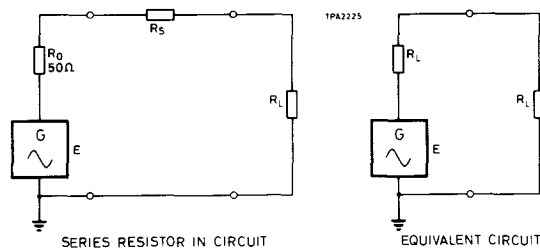

Fig. 4 High impedance matching
24. To match a load that is greater than 50  $\Omega$  to the output of TF 2016 a resistor  $R_S$  is required to be added in series with the generator output as in Fig. 4. The value of  $R_S$  is given by the difference between the load and the generator impedances, i.e.